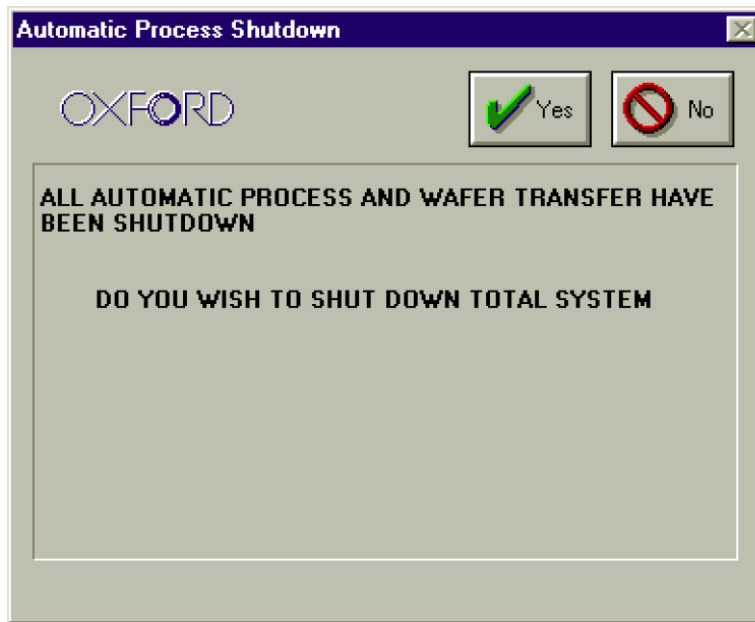

Figure 5-3 Automatic Process Shutdown window
- Click the **STOP ALL AUTO PROCESSES** button. This opens the Automatic Process Shutdown dialogue (see Figure 5-3).